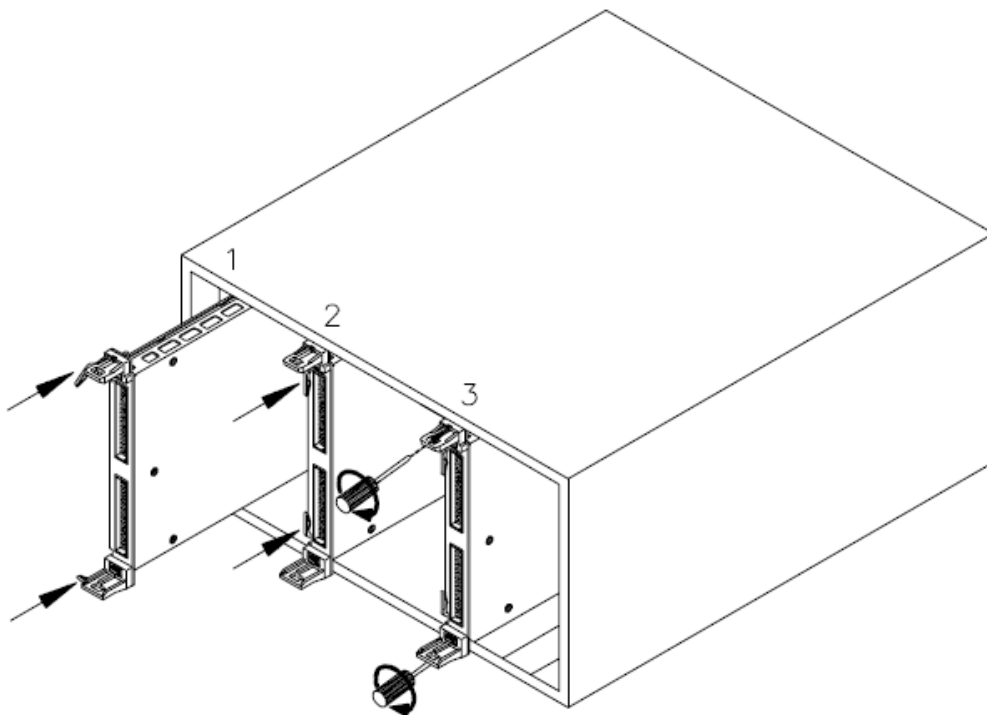

Figure 1-5 Installing the E1418A in a VXIbus Mainframe
- 3 Install the module in a mainframe as shown in Figure 1-5.